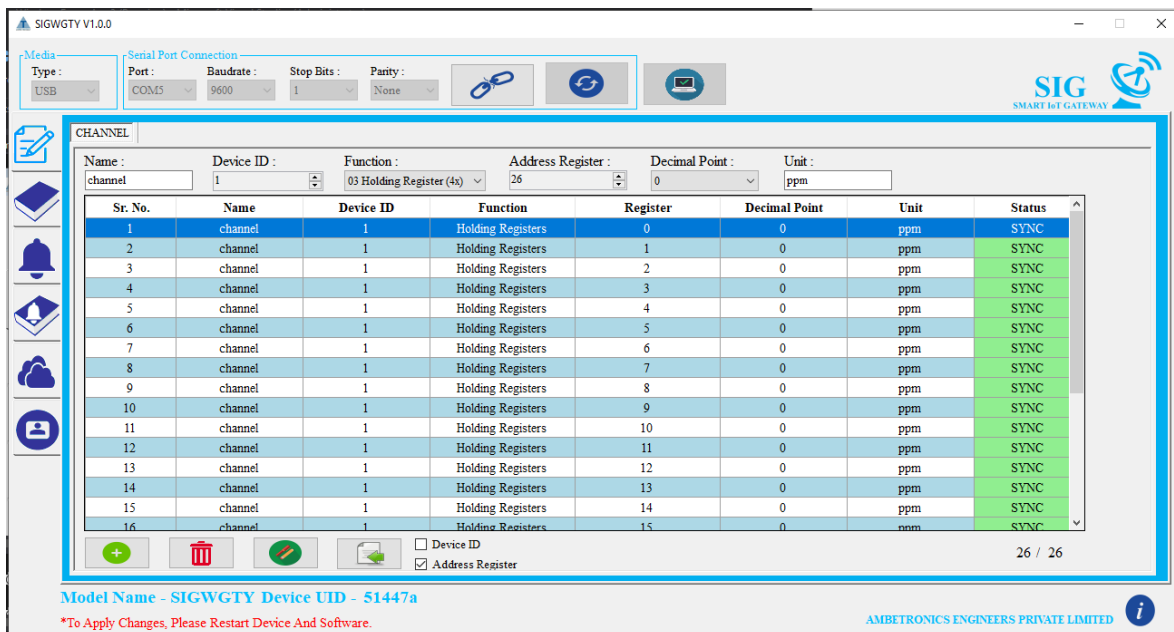

Figure 23
- Once all the data is added click on  button and wait till “SYNC” is filled in the status column as shown in Figure 23.
- Out of total added channels how many channels are synchronized is also displayed on window as shown in Figure 23.